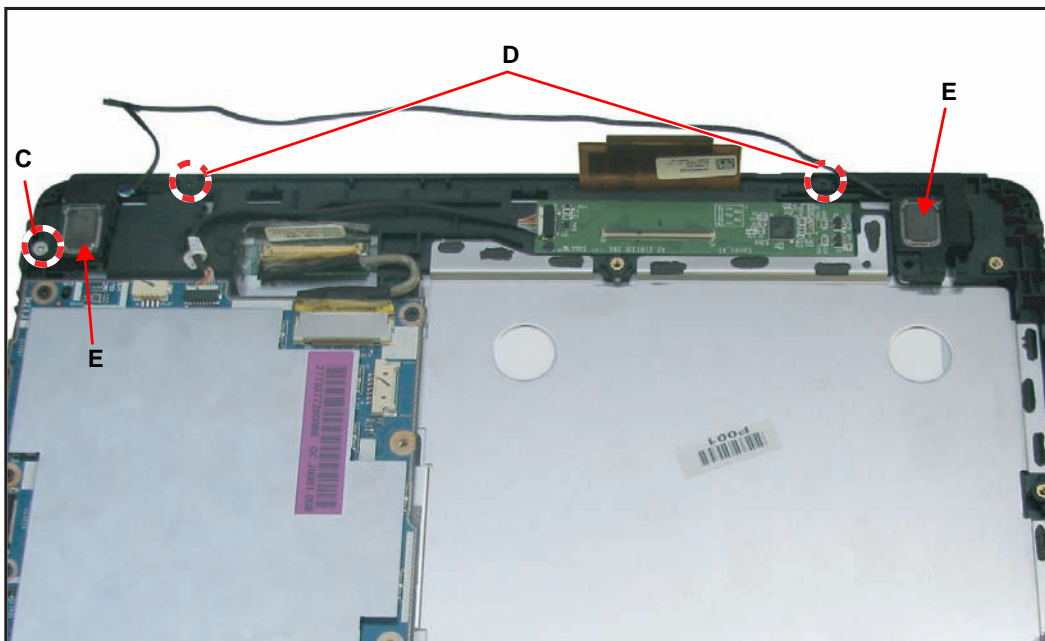

Figure 3:43. Removing the Speakers
6. Remove the speakers (E) from the bezel. (Figure 3:43)